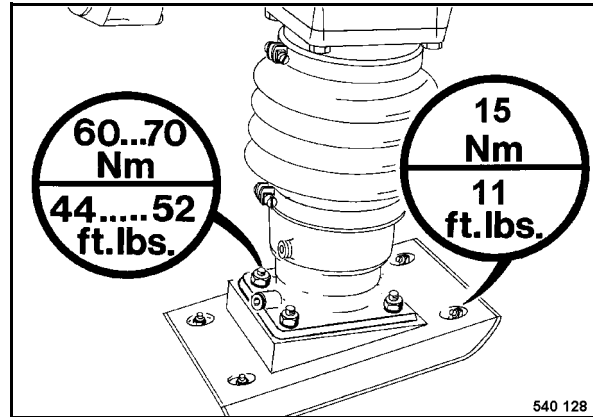

Fig. 41
- Retighten the screws (Fig. 41).